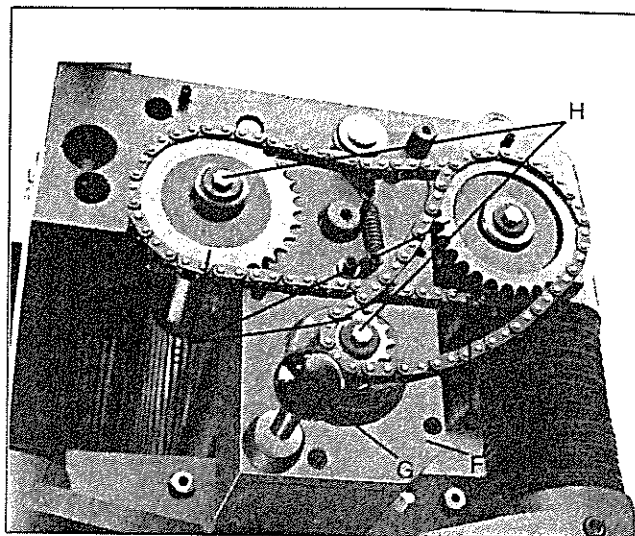
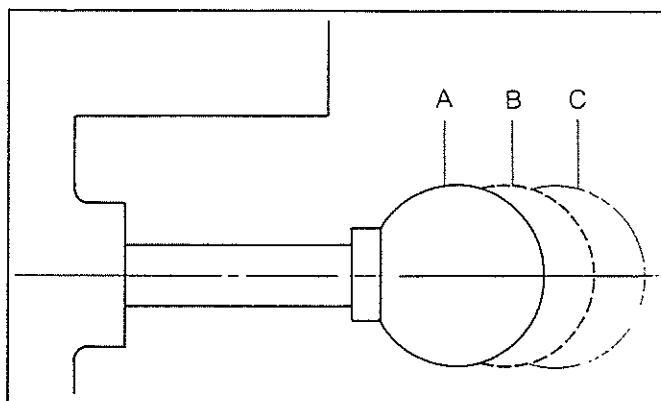

Fig. 33
Fig. 34
Your machine is equipped with a spiral, serrated infeed roller and a solid steel outfeed roller. When the feed rollers are engaged, they turn to feed the stock. The feed rollers slow automatically when the machine is under heavy load for best planing under all conditions. The feed rollers are driven by chains (D) Fig. 33 and the sprockets (E), which takes power directly from the cutterhead through the oil bath gear box (F) Fig. 33.
There are two feed speeds in the gear box by using the shift lever (G) Fig. 33 to pull out or push in, and the feed speed range as shown in Fig. 34.
Shift gears handle, shown as Fig. 34. There are three kinds of operations of gear box by using shaft handle to pull or push. In the position A feed roll is operating on rate 20 FPM. Shown as Fig. 16 In the position B feed roll is operating on rate 0.